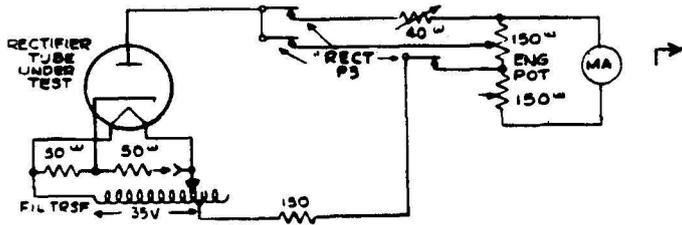

Fig. 3 - Standard Rectifier Test Circuit
2.20 When testing a rectifier-type tube the set is arranged as shown in Fig. 3. Each anode is tested separately. The 83-type tube has no function in this circuit arrangement, the rectifier plate circuit under test being substituted for one side of it. A current limiting resistance of 150 ohms is in series with the tube under test, and the MICROMHOS meter reads proportionally to the rectified a-c current as indicated on the GOOD - REPLACE scale.